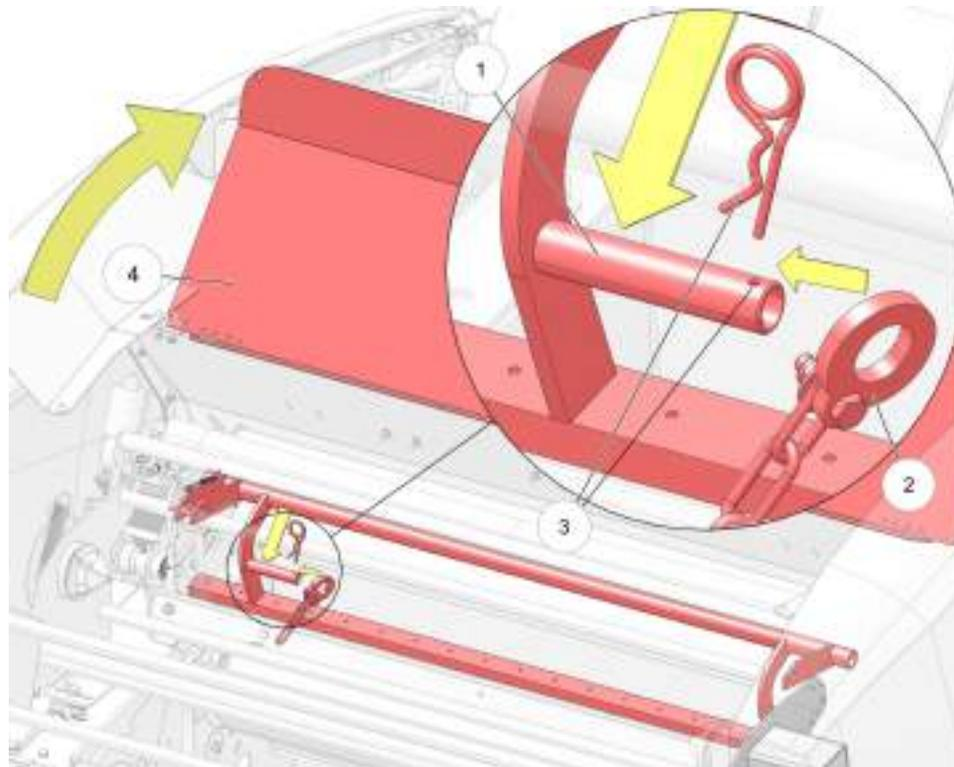

Figure 39. Open the top cover and secure the net knife
11. Remove the spring clip (3) and chain (2) (see Figure 39 on page 7-15) of the net knife safe guard (if applicable).
1. Open the top cover (4) (see Figure 39 on page 7-15).
2. Pull the handle (1) of the net knife carrier to the front and hold it.
3. Attach the safety chain (2) and secure it with the clip (3).